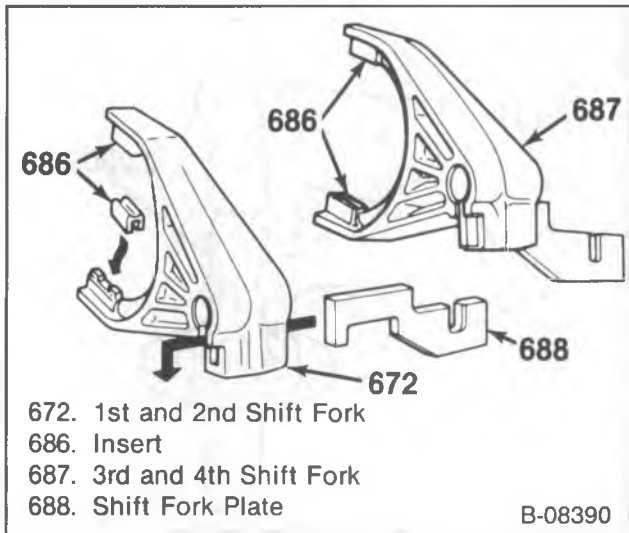
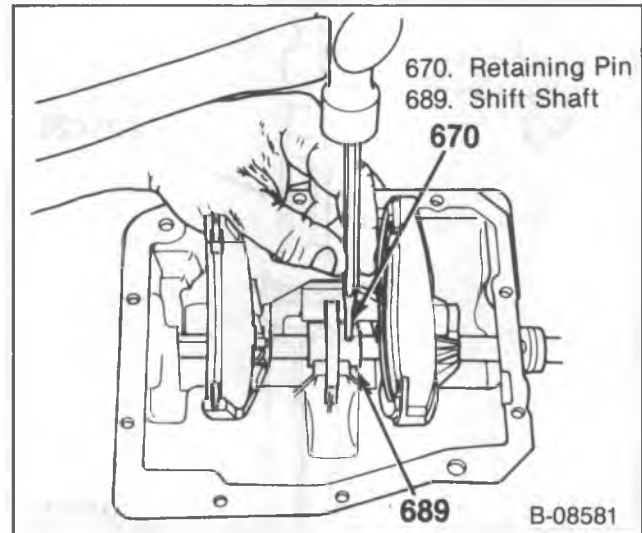

Figure 31—Shift Forks and Selector Plates
Figure 32—Removing the Shift Shaft Retaining Pin
1. Turn the shift shaft (685) until the selector arm (689) is disengaged from the fork plates (688).
2. Drive the retaining pin out of the selector arm (689) (figure 31).
3. Remove the shift shaft (685).
4. Pry the oil seal (602) out.
1. Install a new shift shaft plug (673), if needed.
2. Fit the inserts (686) and the fork plates (688) into the shift forks (figure 31).
3. 1st and 2nd (largest) shift fork (672).
- Hold the shift fork in the cover with the fork offset to the rear (figure 32).
4. Selector arm (689) and the interlock plate (671).
- The shift arm retaining pin hole must be away from the cover and to the rear (figure 32).
5. 3rd and 4th shift fork (687).
- Hold the shift fork in the cover with fork offset to the rear (figure 32).
7. Drive a new retaining pin (670) into the selector arm and the shift shaft.
8. Install a new oil seal (602).